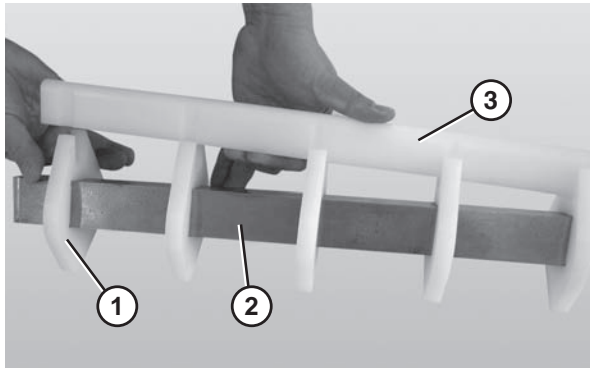

Figure 67
- Remove the nose bar wear strip (**Figure 67, item 3**).
- Slide the nose bar pucks (**Figure 67, item 1**) off the nose bar shaft (**Figure 67, item 2**).